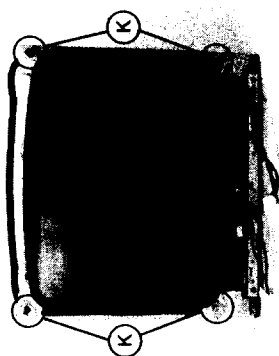

Fig. 6.
- (a) Remove the (4) screws marked "K" as shown in fig. 6.